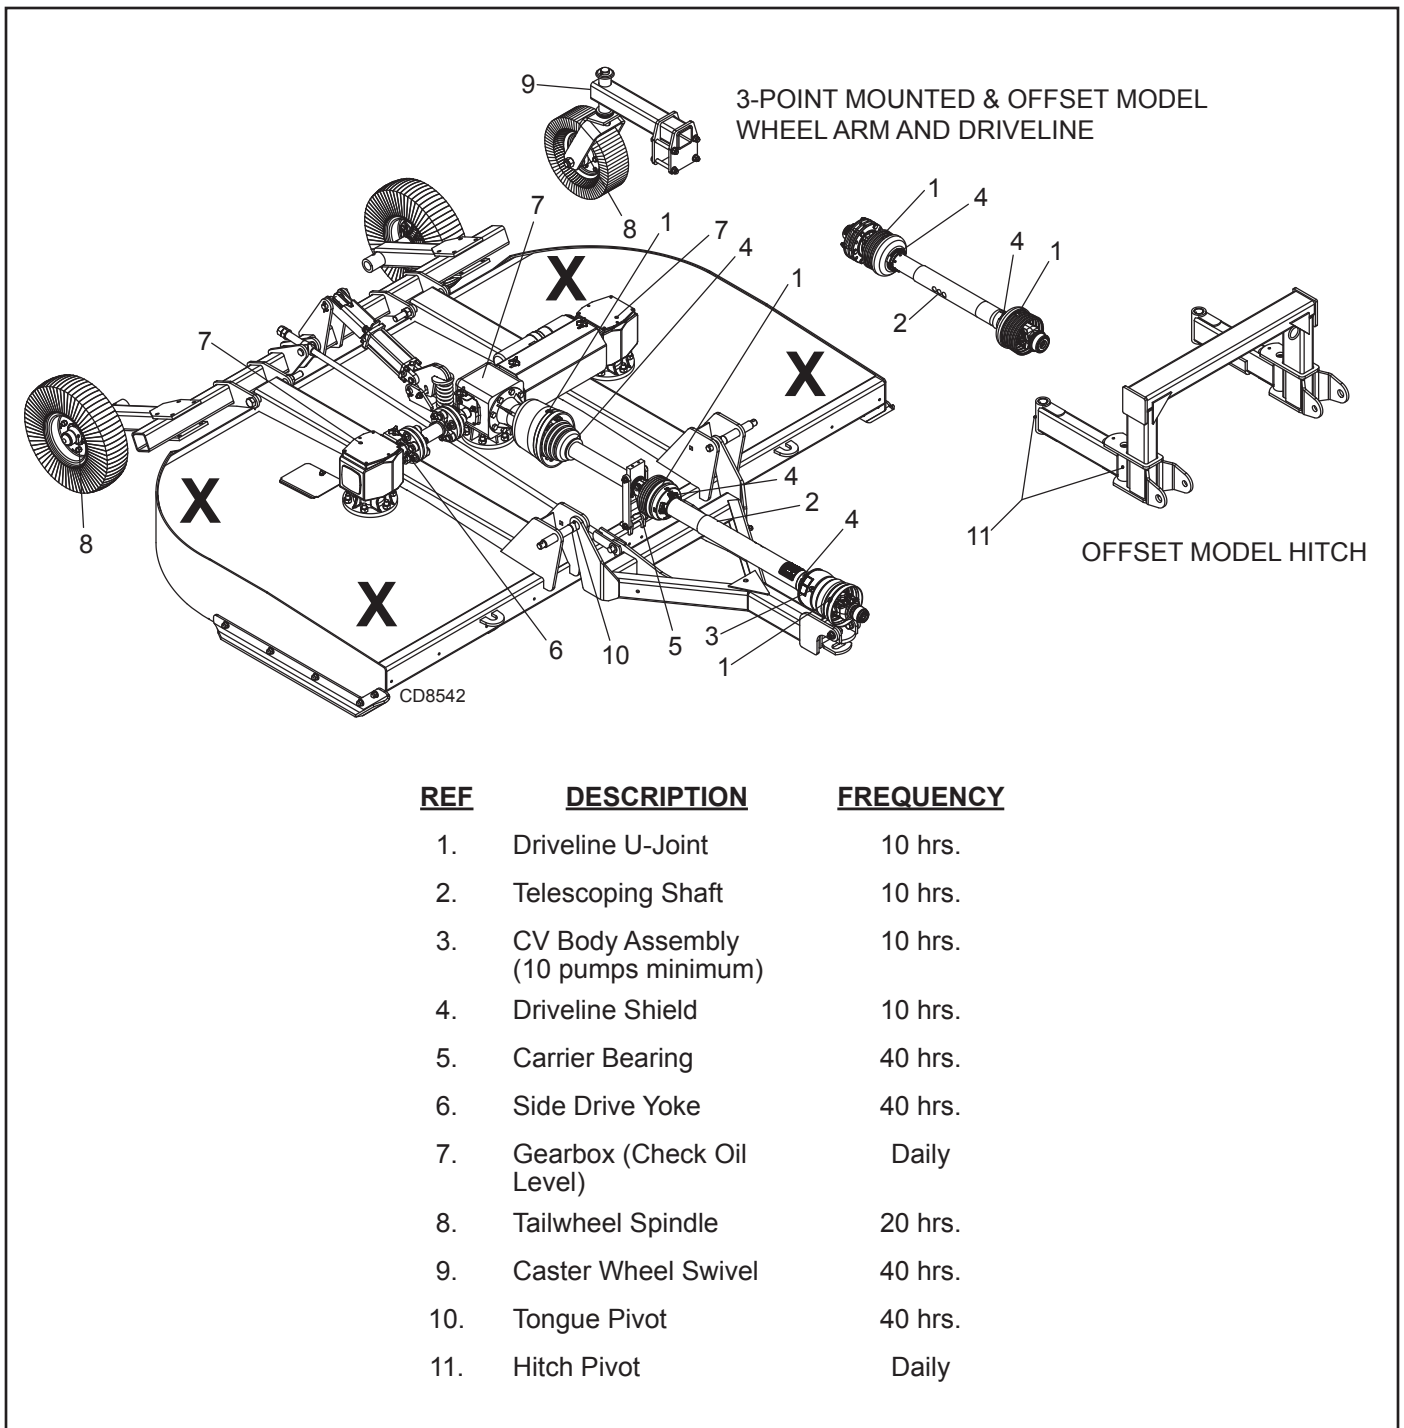

Figure 10. Jackstand Placement and Lubrication Points
1. Jackstands with a load rating of 1000 lbs. or more are the only approved blocking device for this cutter. Install jackstands (shown by Xs in Figure 10) under the cutter before working underneath unit.
See Figure 10 for lubrication points and frequency or lubrication based on normal operating conditions. Severe or unusual conditions may require more frequent lubrication.